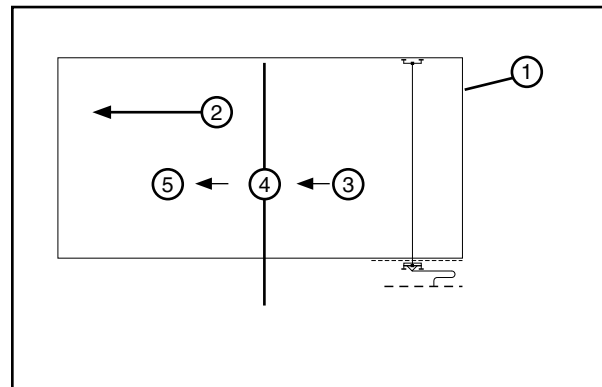

Figure 33-2 1. Field 2. Direction of Travel 3. Wet 4. Stop 5. Dry
3. The system direction is reversed, the percentage timer is set to the desired application rate and the system is run wet (irrigating) to the middle of the field. See figure 33-2.
4. The system is stopped, the percentage timer is set to 100% and the system is run dry to the original end of the field. See figure 33-2.